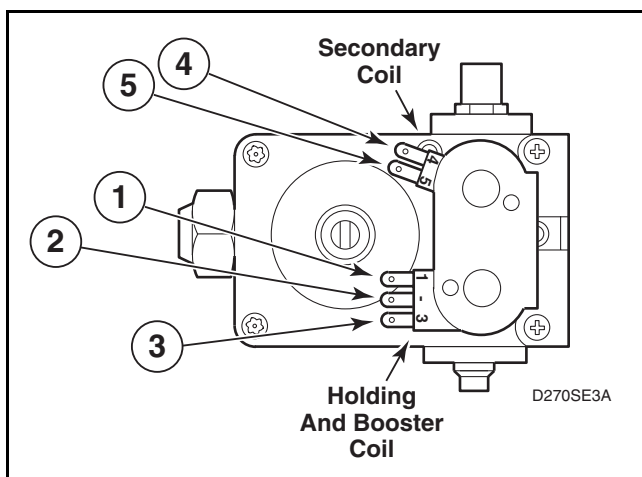

Figure 48
- Remove valve wire harness disconnect block from the holding and booster coil. Refer to *Figure 48*.
- Set test meter to read Ohms and put meter probes to terminals shown in *Figure 48*, and in the following chart.